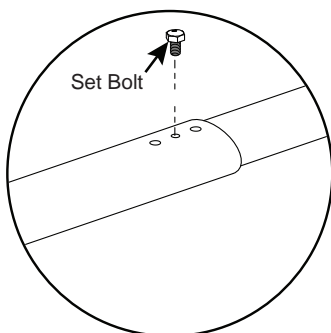
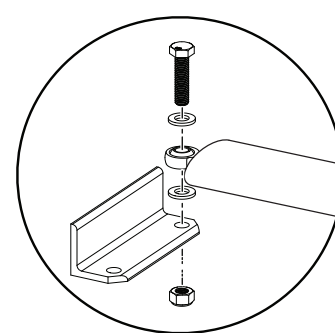

Figure 13. Gate Bracket Height
Figure 14. Gate Bracket Hardware
9. Move the end of the assembly to Xg and mark the height so the arm assembly stays level (Figure 13).
10. Clamp the gate bracket at Xg and the marked height (H).
11. Connect the arm assembly to the gate bracket (Figure 14).